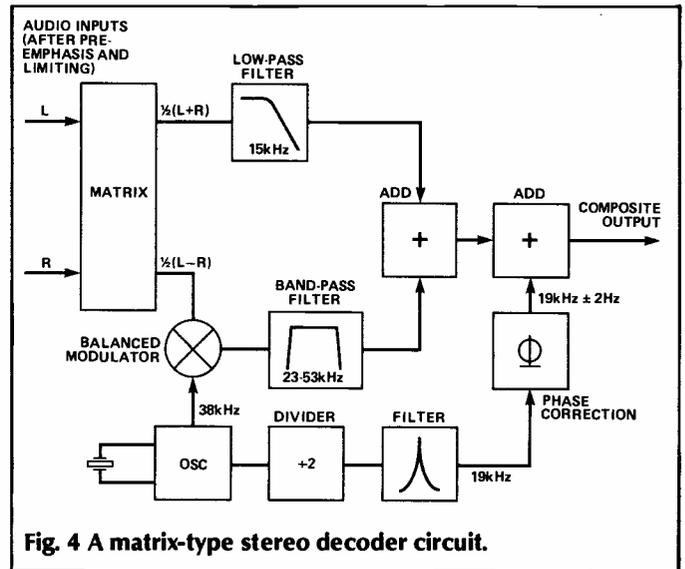

Fig. 4 A matrix-type stereo decoder circuit.
**Fig. 4** The power amplifier stages of the Fender model AA-864 Bassman amplifier. Note the use of a cathode-coupled phase splitter (V4a and V4b) and the feedback loop from the output transformer secondary to the phase-splitter cathode circuit.
Signals to be transmitted are combined in a matrix circuit to give  $(L+R)/2$  and  $(L-R)/2$  outputs (Fig. 4). The mono  $L+R$  signal is filtered to remove any components above  $19\text{kHz}$  and passed through to the output, while the  $L-R$  signal is taken to a balanced modulator and converted into a double-sideband suppressed signal, based on a crystal controlled  $38\text{kHz}$  carrier frequency.